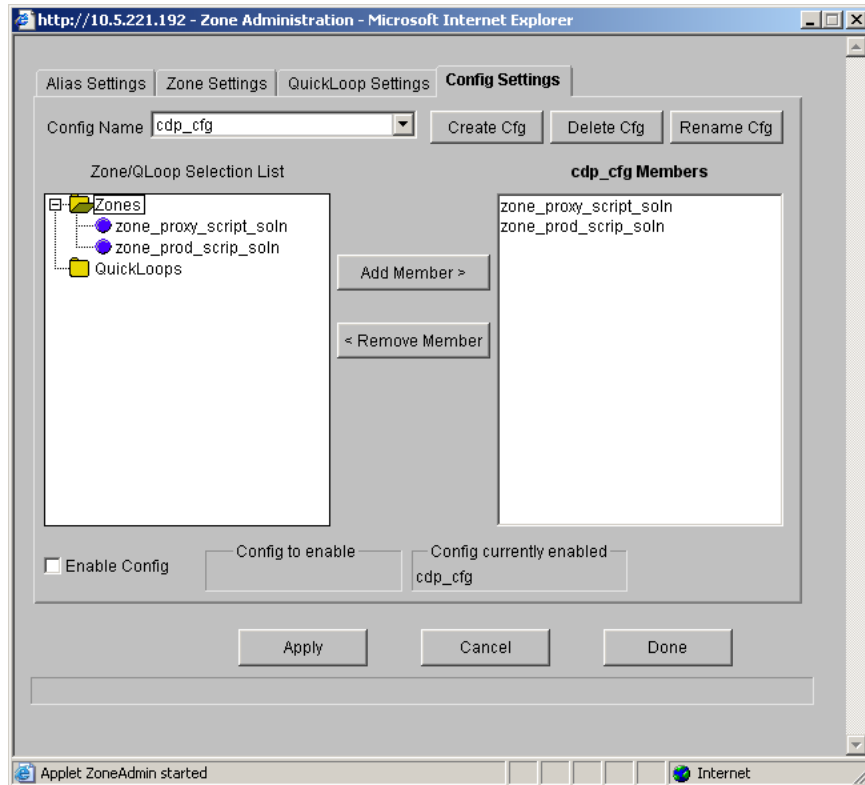

Figure 4 – Switch Configuration – III
10. Click “Create cfg” button as shown in Figure 4 and enter a name to the configuration, e.g. “any_config”.
11. Add zones to the newly created configuration and click “Apply” to commit your changes to the Fibre Channel switch as shown in Figure 4.